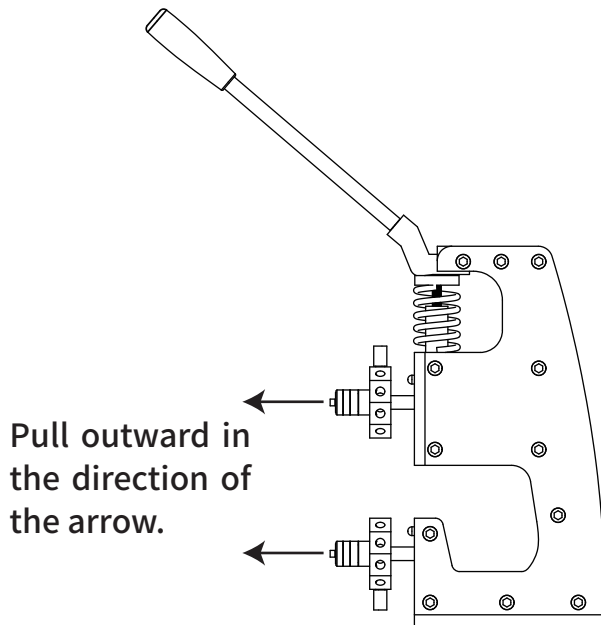

Fig.5.1
5. Pull the punch turntable outward and rotate it (Fig 5.1);